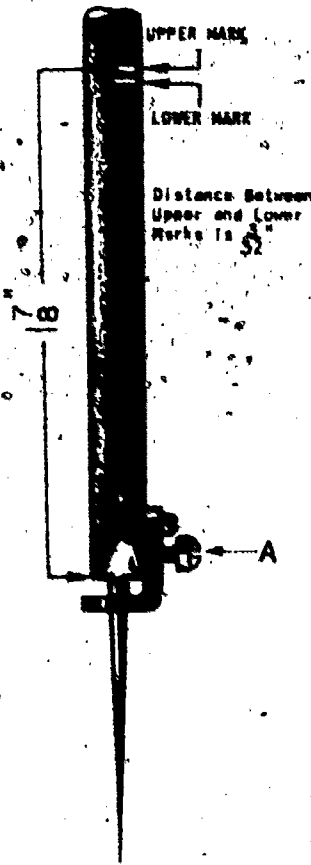

Figure 10. Marks on the Needle Bar of the 111W152 Sewing Machine.
7. Loosen screw and adjust the needle bar. The position of the alignment marks on the needle bar is shown in figure 10. Align the needle bar so that the upper mark is first visible at the edge of the needle bar rocker frame (figure 11C). It is imperative that the needle eye be in a parallel line with the length of the machine. If it is not directly in alignment, the machine will skip stitches or may not sew at all.